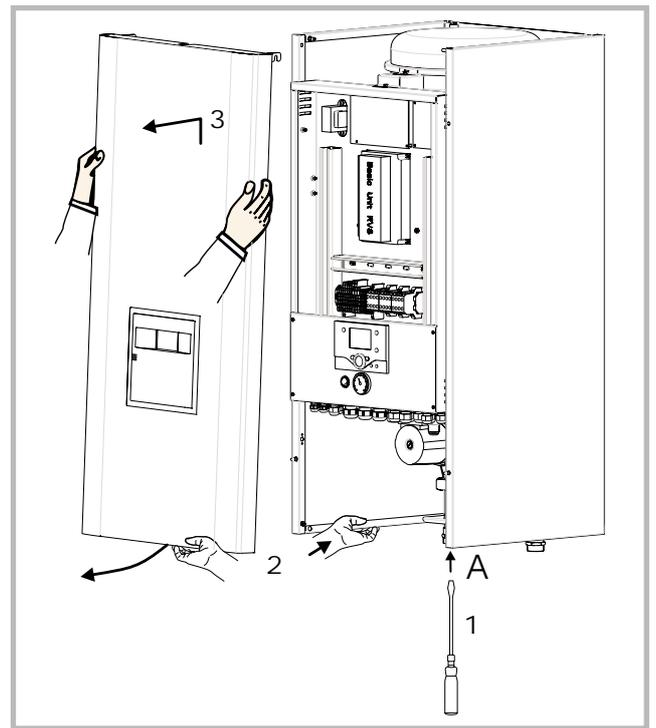

Figure 16 - Removing the front facing
- 1, 2, 3 : Remove the front panel (2 screws A, figure 16)